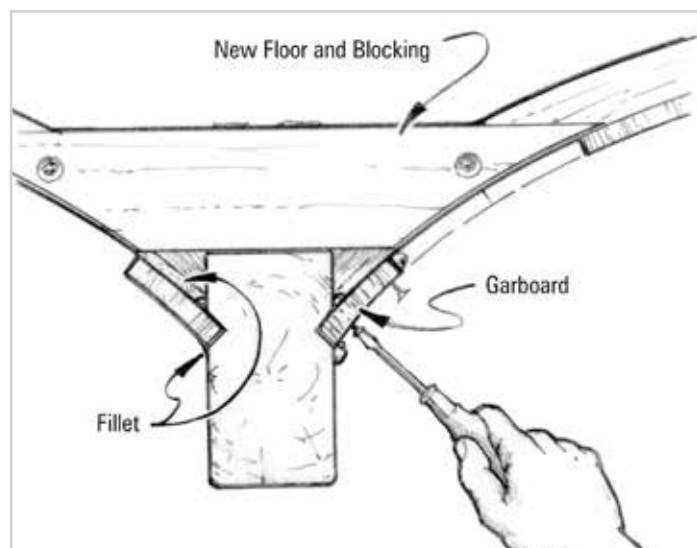

Figure 4-12 Bond the garboard back into position next to the keel. Toughened G/flex 655 Epoxy Adhesive is well suited for this type of joint.
5. Install the garboard with the original screws (Figure 4-12). Start at the middle and work toward both ends.